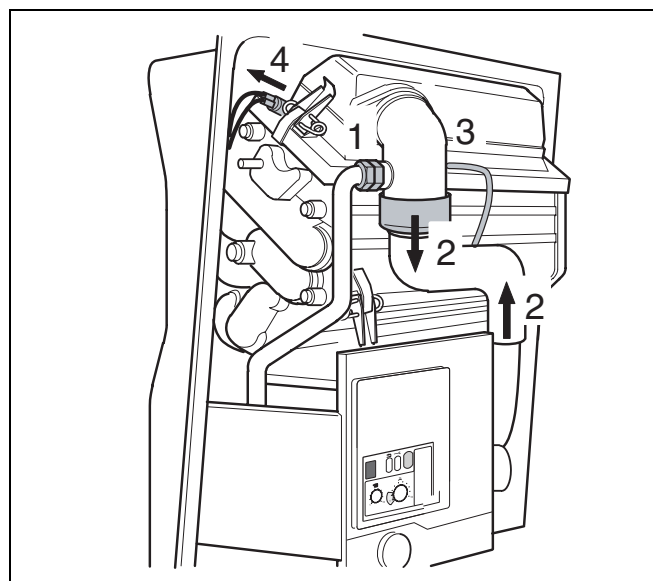

fig. 56 Disconnecting
- Loosen the screw couplings of the gas injector (fig. 56, item 1) and safety valve (fig. 56, item 2).
- Pull off the hoses leading to the fan (fig. 56, item 3).
- Pull off the hoses at the differential pressure measuring point (fig. 56, item 4).
- Pull out the plug of the burner thermostat (fig. 56, item 5).